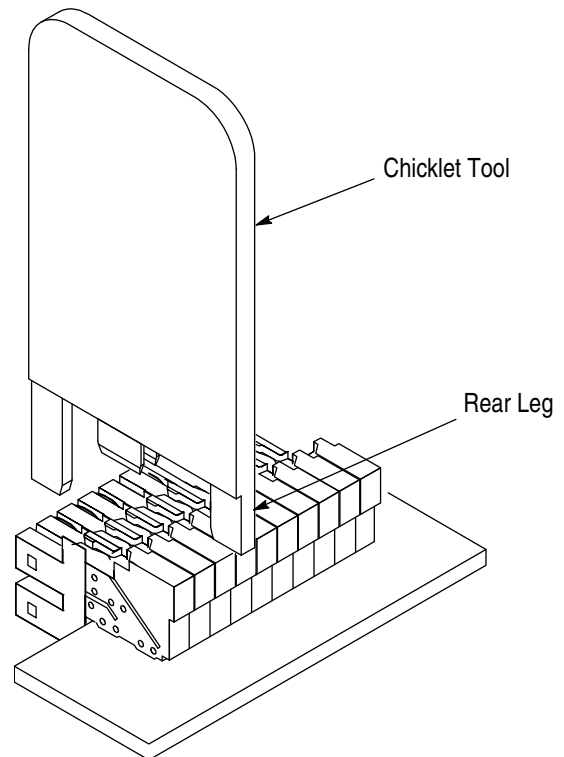

Figure 2
2. Place the tool over the chicklet to be removed, as shown in Figure 2.